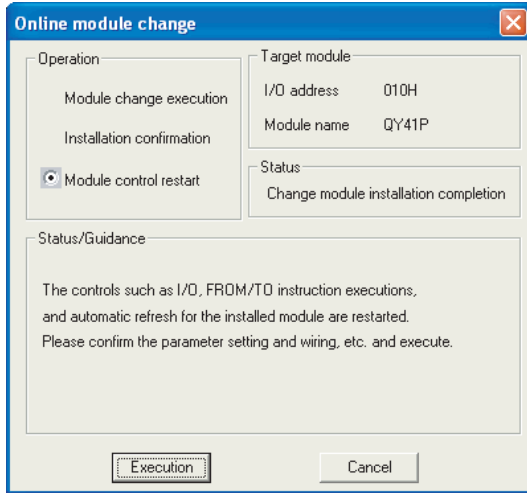

Figure 12.32 Online module change screen
(Table12.7 shows the communication status with the target module for online module change when the following screen (refer to Figure 12.32) is displayed.)
- At the time of completion of the online module change, the error dialog box shown in Figure 12.32 may be shown, but the online module change is completed normally.